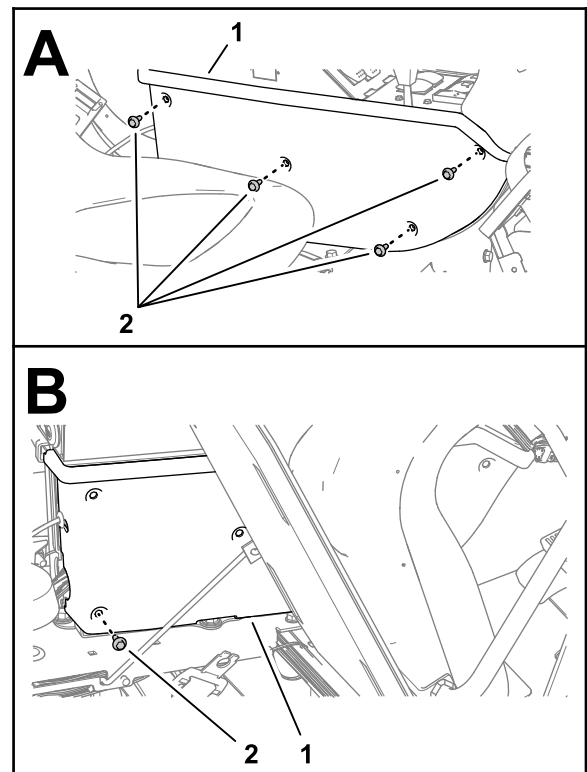

Figure 38
2. Remove 4 flange-head capscrews (1/4 x 3/4 inch) that secure the side panel of the center console as shown in Figure 38.
3. Tilt the passenger seat forward, and remove the lower rear flange-head capscrew (Figure 38).